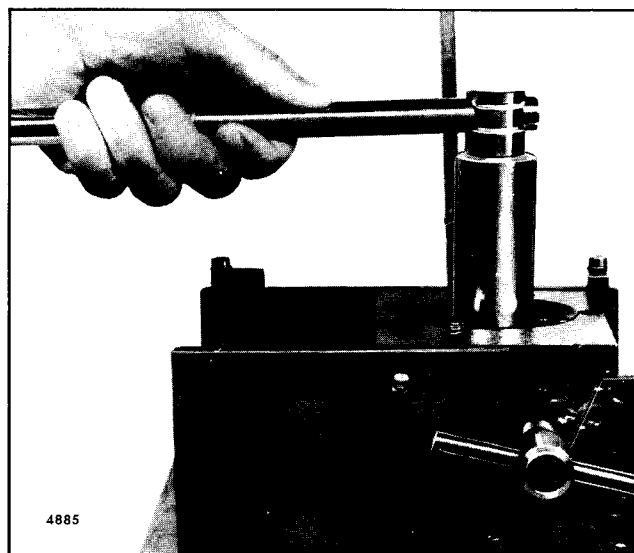

Fig. 20 - Removing Injector Nut using Tool J 4983-01
4. Invert the fixture and, using socket J 4983-01, loosen the nut on the injector body (Fig. 20).